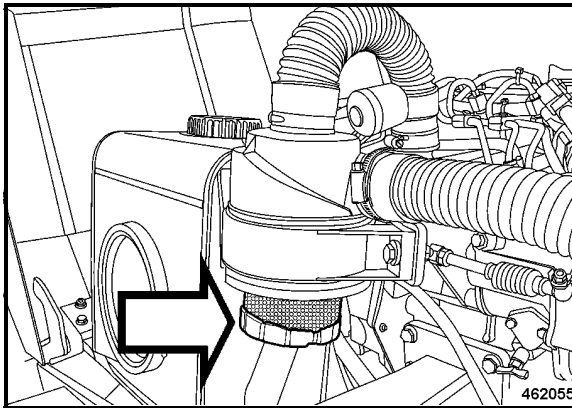

Fig. 123
- Pull the air filter cartridge (Fig. 123) out of the air filter housing.